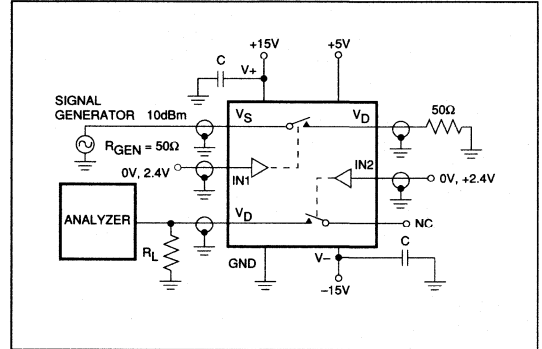

Figure 4. Crosstalk Test Circuit
**Note 5.** Between any two switches. See Figure 4.